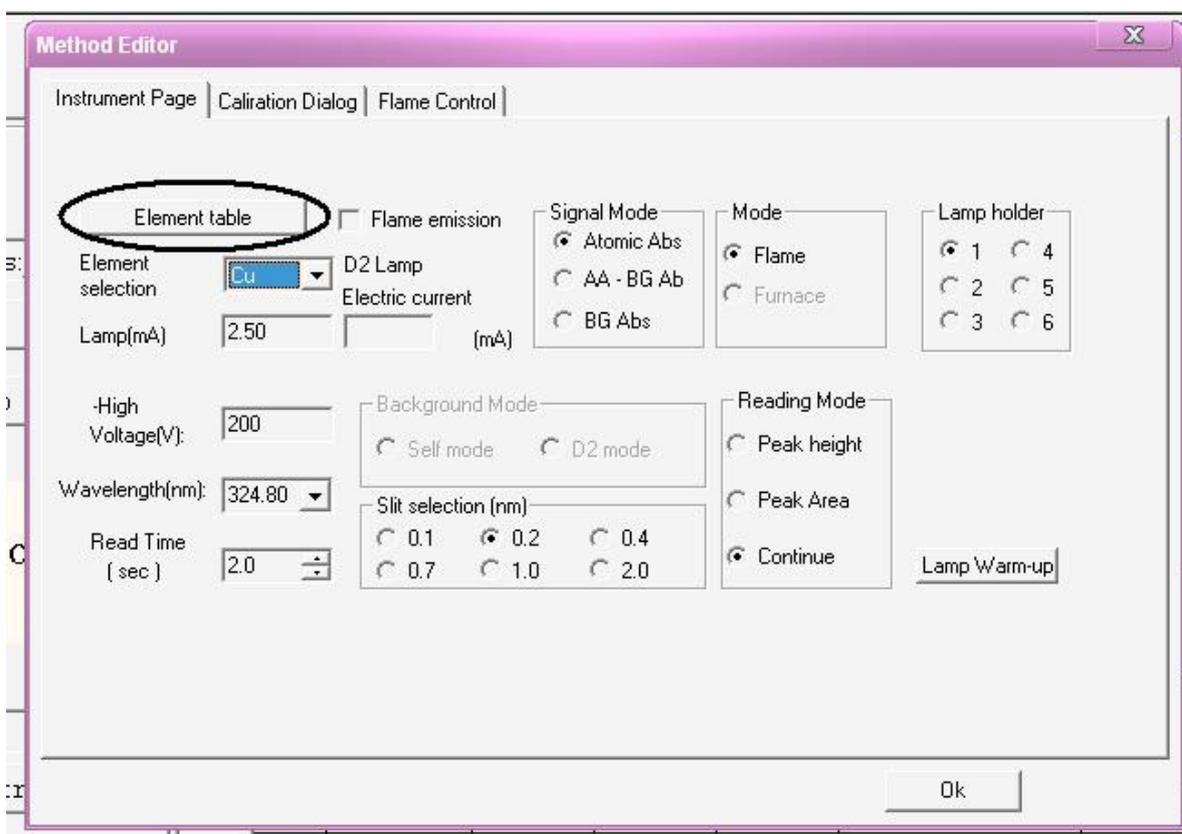
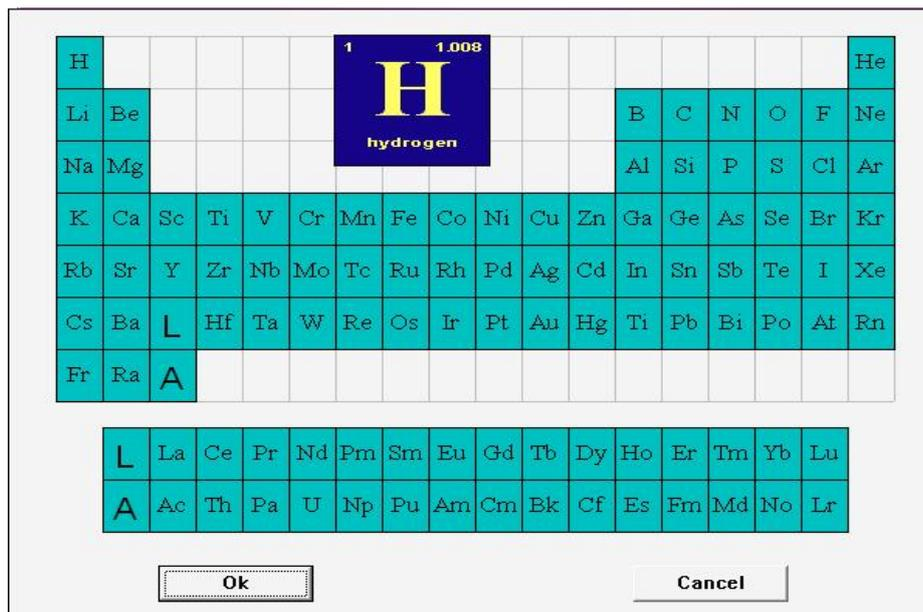

Figure 4-11
Figure 4-12
“Instrument Page”, “Caliration Dialoge”, “Flame Control” or “Graphite Furnace Control” are in the window, Figure 4-11
1. Choosing element. There are two methods to check element, one is click on the **【Element Table】** button (Figure 4-11), pop up a element table (Figure 4-12).